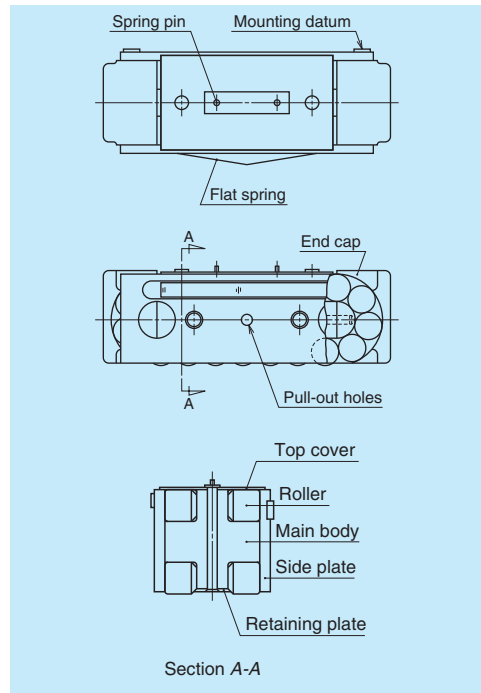

Fig. 1 Roller pack
A roller pack comprises a main body which supports load from the guide way block via two rows of rollers, an end cap which changes the direction of the re-circulation of rollers at the end of the main body, and a side plate which guides the rollers (Fig. 1). Roller packs are a type of linear rolling guide, where rollers are allowed to re-circulate infinitely.
- In case of heavy load, the roller pack can not be pulled out by the above method. Hook a tool to the pull-out hole (Fig. 1) on the side plate of the roller pack, and pull out the roller pack.